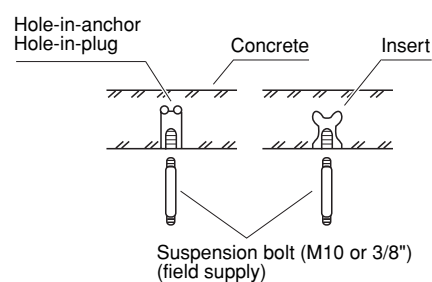

Fig. 3-63
- Insert suspension bolts as shown in Fig. 3-63
- (2) Screw in the suspension bolts allowing them to protrude from the ceiling as shown in Fig. 3-63. (Cut the ceiling material, if necessary.)